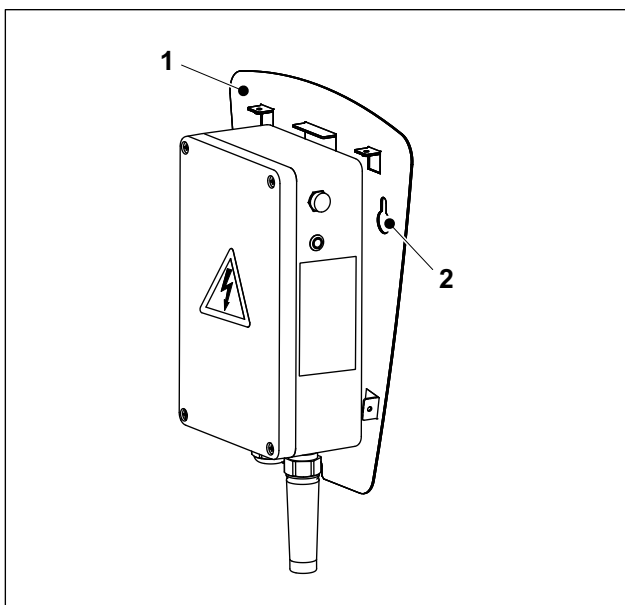
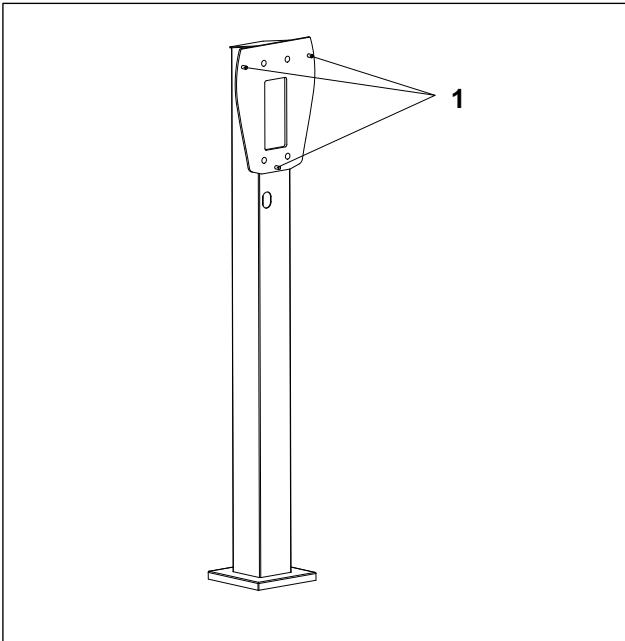

Fig. 2 Heidelberg Wallbox Home Eco, mounting plate
Fig. 3 Column with three attachment points
4. Hang the mounting plate (Fig. 2/1) of the Wallbox on the two fastening screws (slotted holes, Fig. 2/2).
1. Hang the mounting plate of the Wallbox (Fig. 2/1) on the three stud bolts of the column (Fig. 3/1).
2. Screw the three nuts (separate parts set for the column) on the stud bolts (Fig. 3/1) and tighten (approx. 12 Nm).